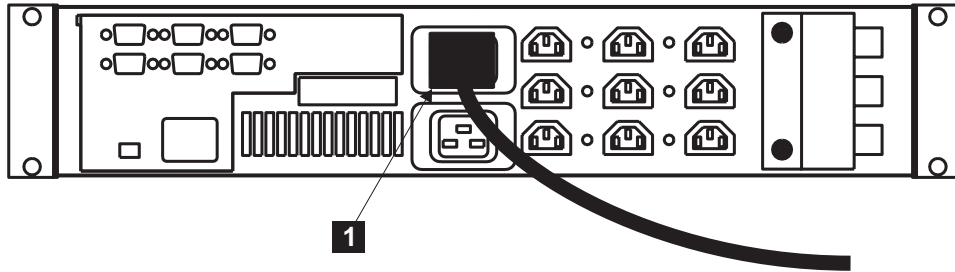

Figure 20. Installing the uninterruptible power supply power cable
9. At the back of the UPS 5125, plug the UPS 5125 main power cable **1** into the power socket. See Figure 20 on page 46.